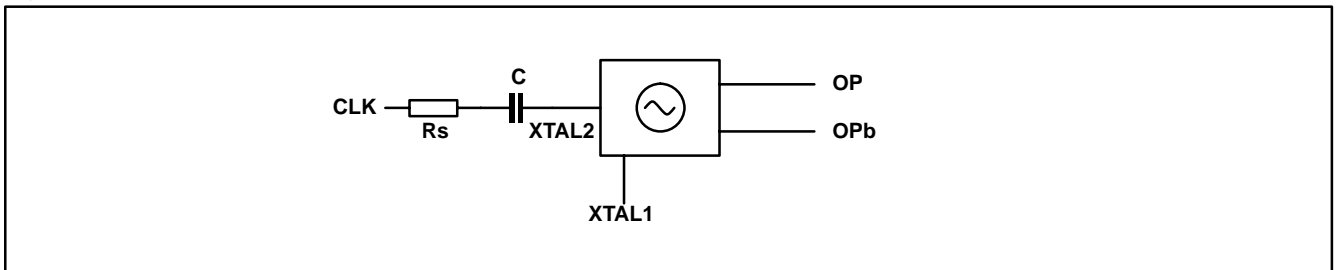

Figure 7 Direct drive of crystal oscillator
Alternatively, a reference clock can be provided by an external source connected to pin XTAL2 Figure 7.
1. Ability to directly drive the XTAL oscillator from the tester (no crystal). The XTAL2 pin allows direct drive of the oscillator with an external clock source as shown in Figure 7. Typically a 200mVpk clock signal is AC coupled to produce differential output on OP and OPb. (C=10nF, R s (Source) <5kΩ)